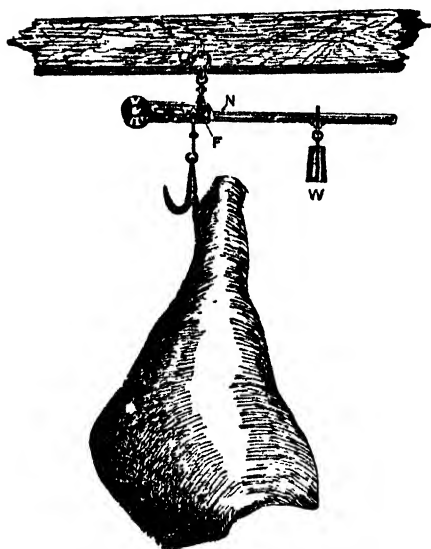

FIG. 84.—A butcher's steelyard.
The opposite effect, that of converting a large force into a smaller one, is not so often needed; it is chiefly required in weighing machines. The simplest weighing-machine of this kind is the steelyard. Plate IX shows a very beautiful Roman one, some 2,000 years old, and Fig. 84 shows a modern one in use. The weight C is made so that when there is no load on the hook and the weight W is at the 0 mark (N) the two halves of the steel-